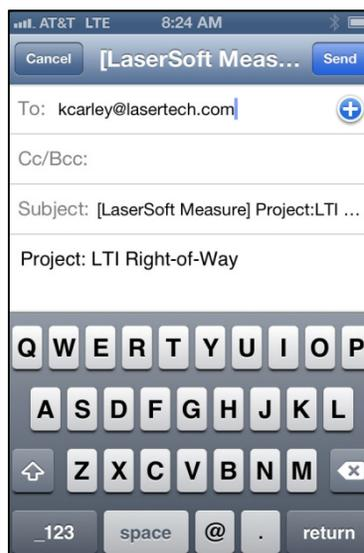

Figure 27
2. Enter the applicable email addresses and any accompanying message (Figure 27).